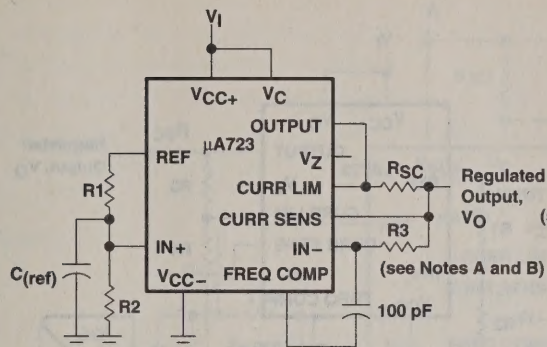

Figure 1. Basic Low-Voltage Regulator
- NOTES: 2. For all values in this table, the device is connected as shown in Figure 1 with the divider resistance as seen by the error amplifier $\leq 10\text{ k}\Omega$. Unless otherwise specified, $V_I = V_{\text{CC}+} = V_C = 12\text{ V}$, $V_{\text{CC}-} = 0$, $V_O = 5\text{ V}$, $I_O = 1\text{ mA}$, $R_{\text{SC}} = 0$, and $C_{\text{ref}} = 0$.